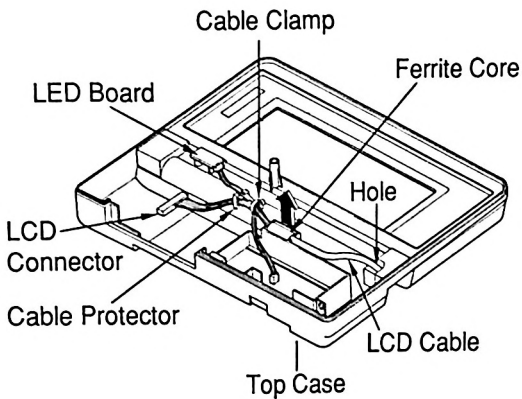

Figure 18
- (1) Turn over the display panel and the top case, and remove the cable clamp by cutting with a diagonal cutter as shown in Figure 18.
- (2) Take out the LED (CHARGE/LOW BATTERY) cable from the cable protector and remove the ferrite core from its compartment by gently pulling up the LCD cable as shown in Figure 18.
- (3) Remove the LCD cable from the hole opening next to the right hinge of the top case.